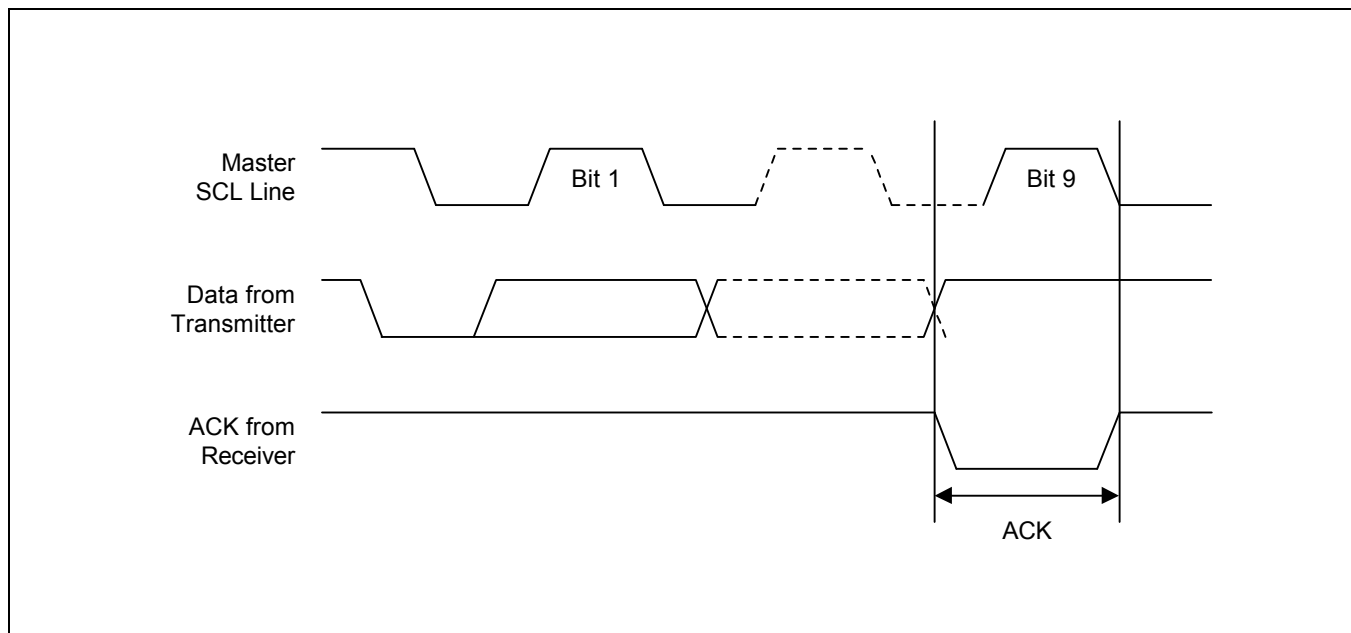

Figure 3-8. Acknowledge Response From Receiver
- ACK (Acknowledge): An ACK signal indicates that a data transfer is completed successfully. The transmitter (the master or the slave) releases the bus after transmitting eight bits. During the 9th clock, which the master generates, the receiver pulls the SDA line low to acknowledge that it successfully received the eight bits of data (see Figure 3-8). But the slave does not send an ACK if an internal write cycle is still in progress.